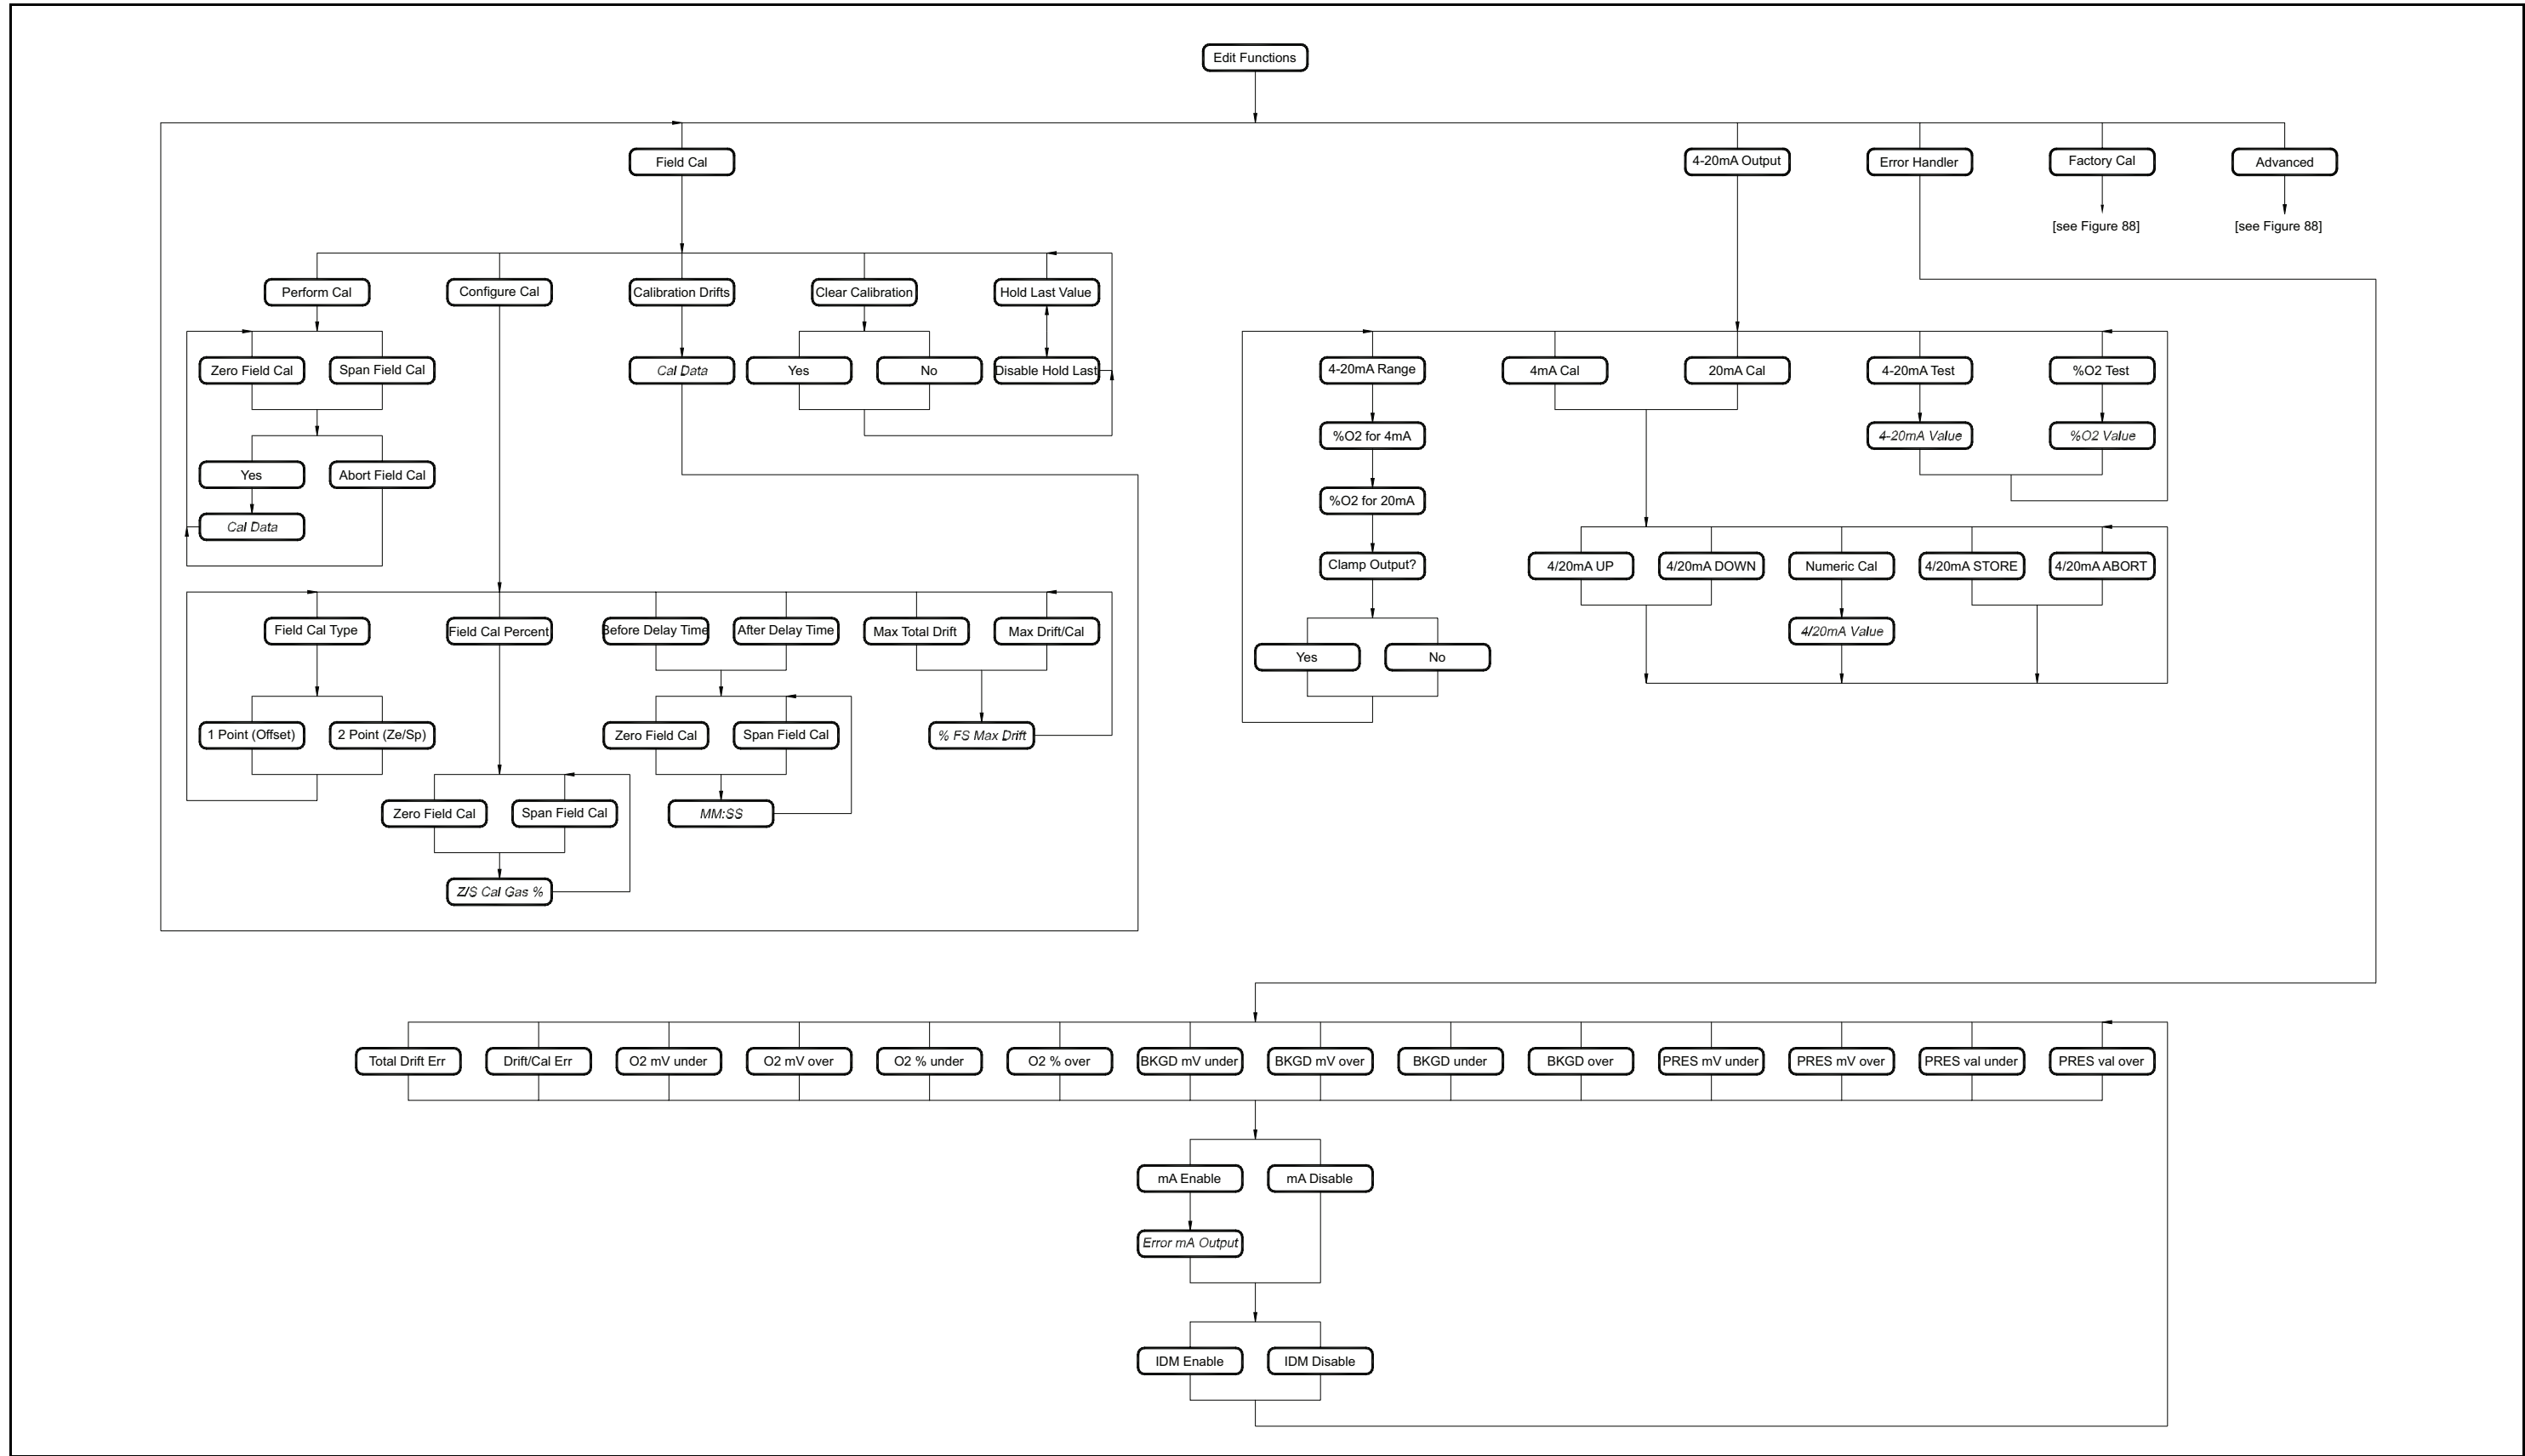
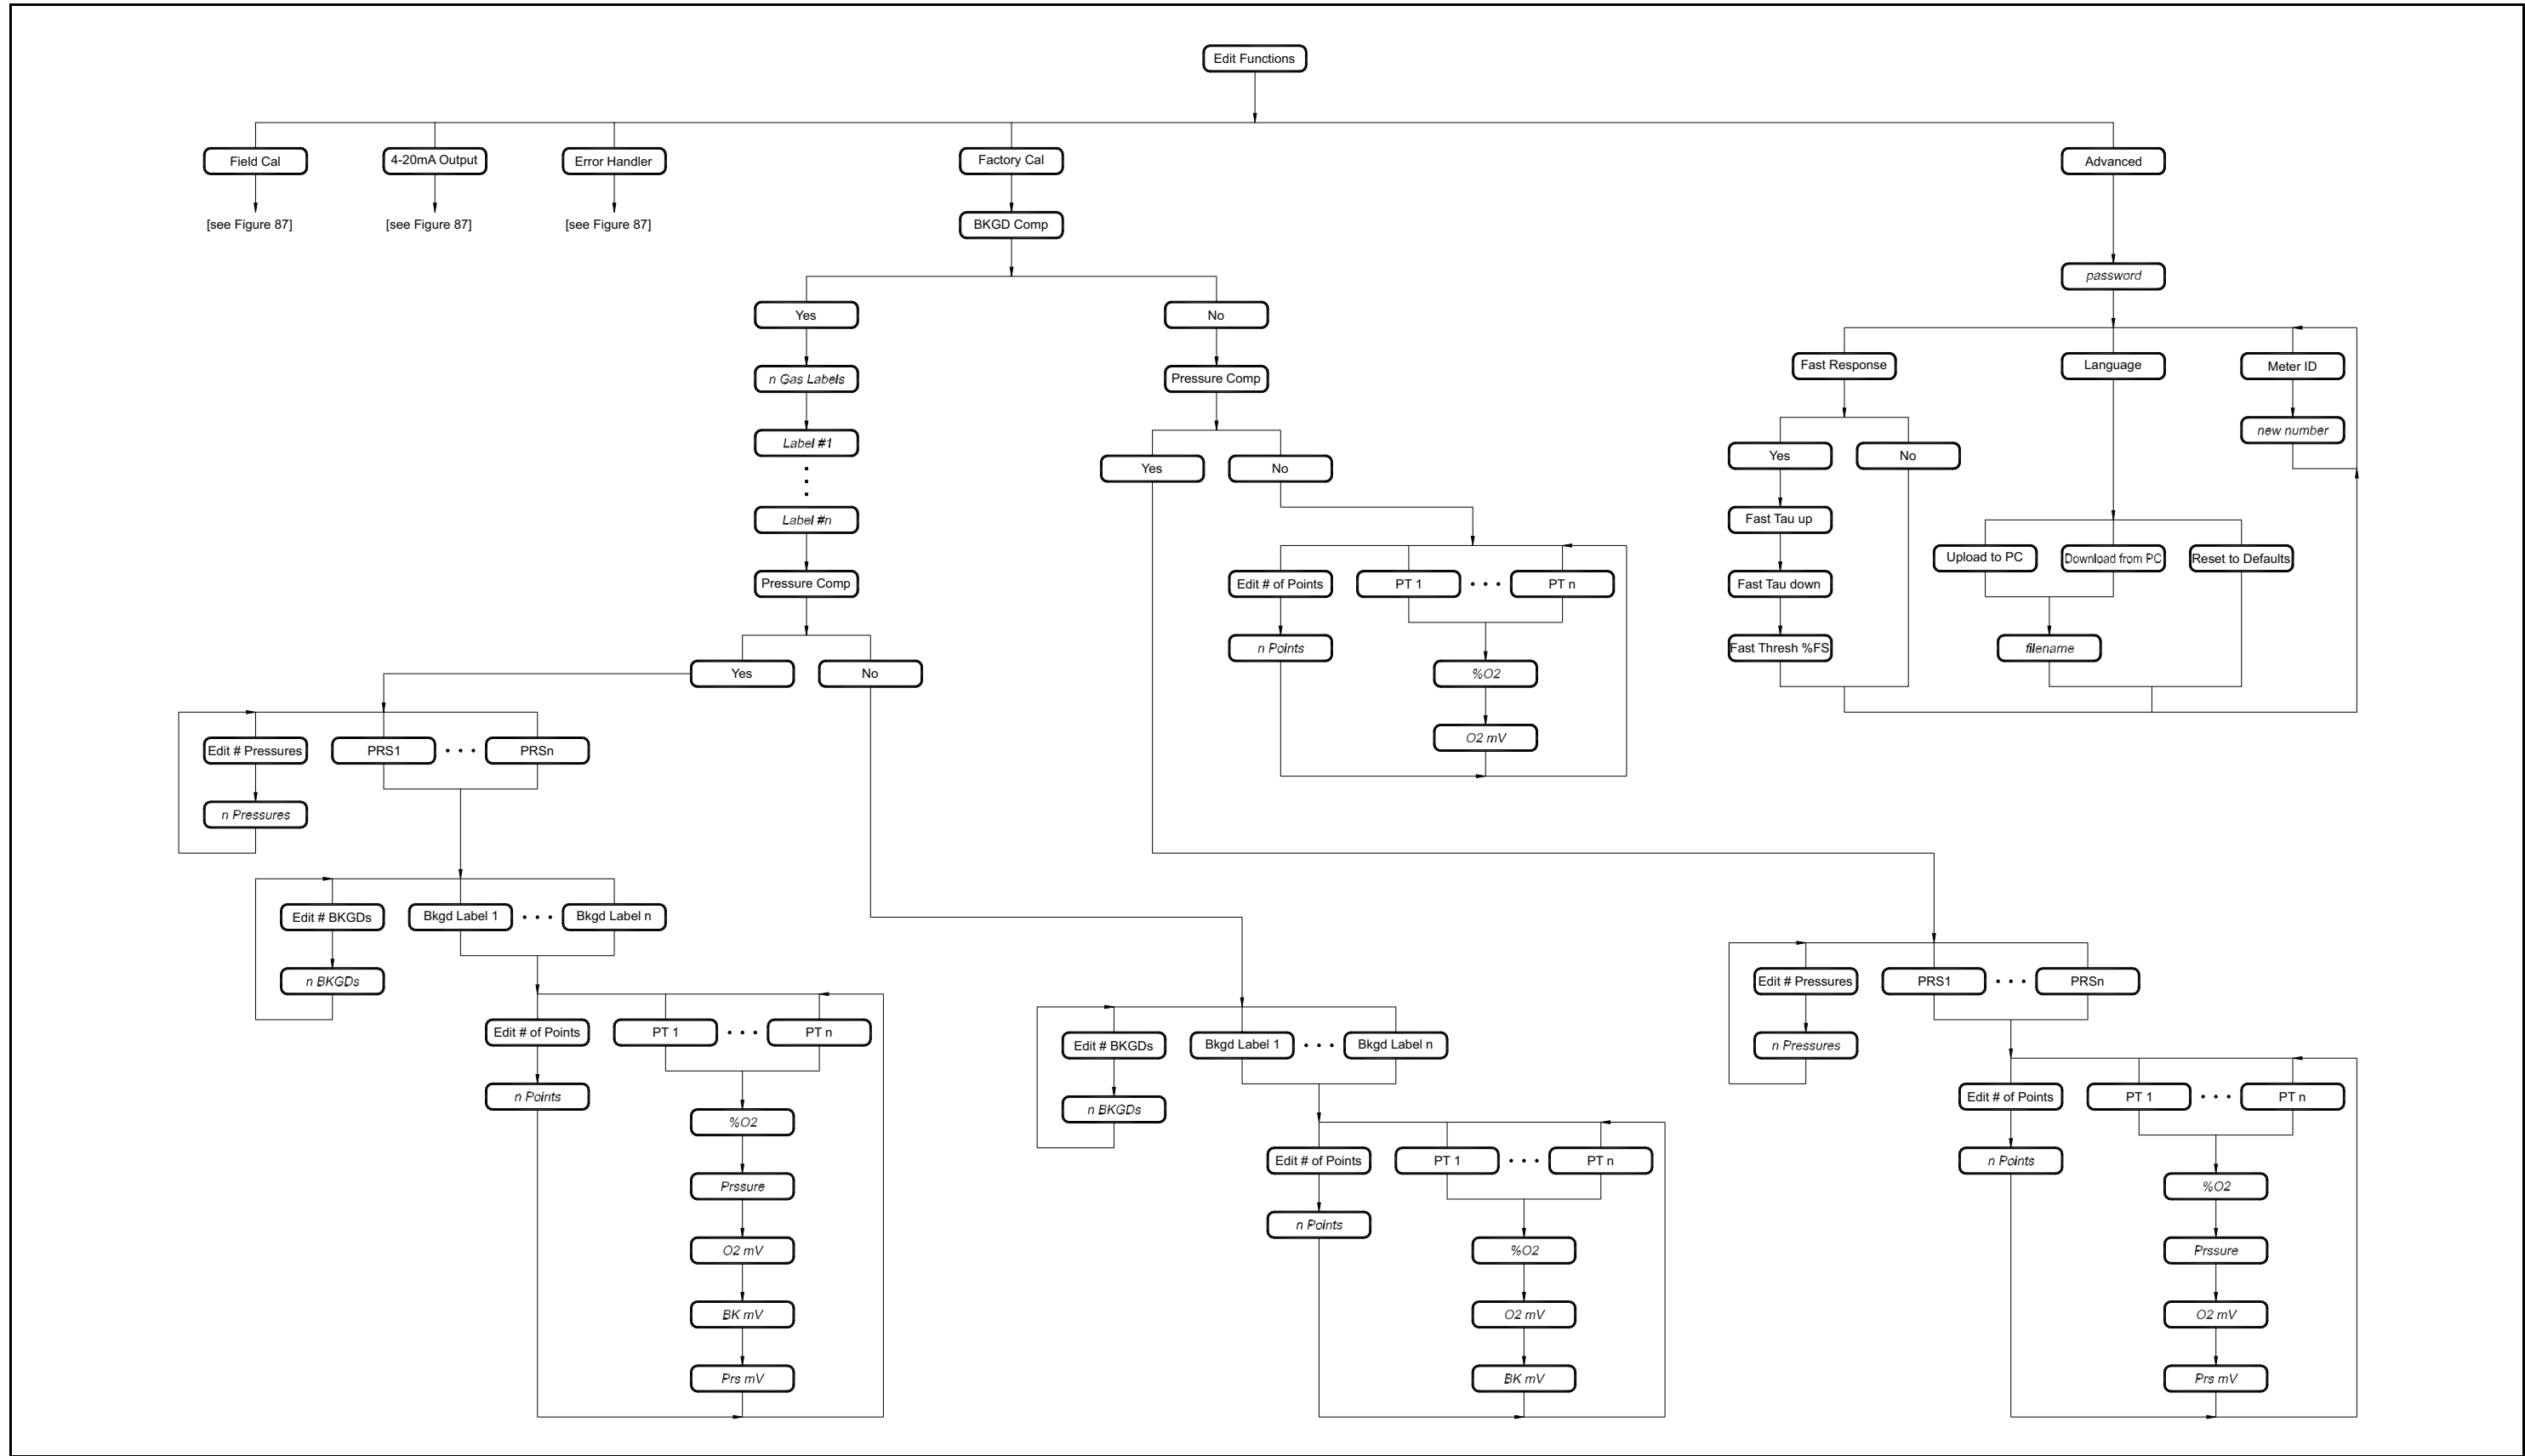
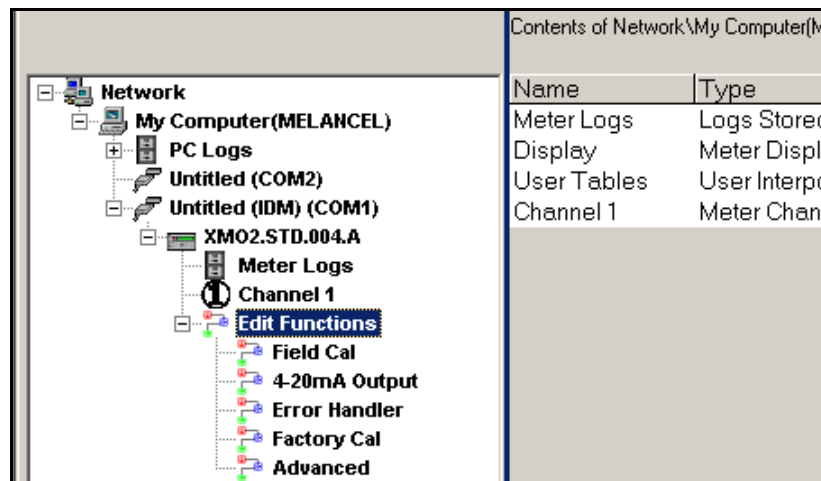

Figure 75: Field Cal, 4-20mA Output and Error Handler Menu Map
Figure 76: Factory Cal and Advanced Menu Map
Figure 84: Meter Tree with *Edit Functions* Option
- Figure 75, “Field Cal, 4-20mA Output and Error Handler Menu Map,” on page 85
4. From the meter tree, expand the *Edit Functions* option. The window now appears similar to *Figure 84* below, with a list of available menus. The five menus listed are those available through the IDM interface, as discussed in Chapters 3 and 4. Refer to the menu maps on *Figure 75* on page 85 and *Figure 76* on page 86 as a guide to programming.